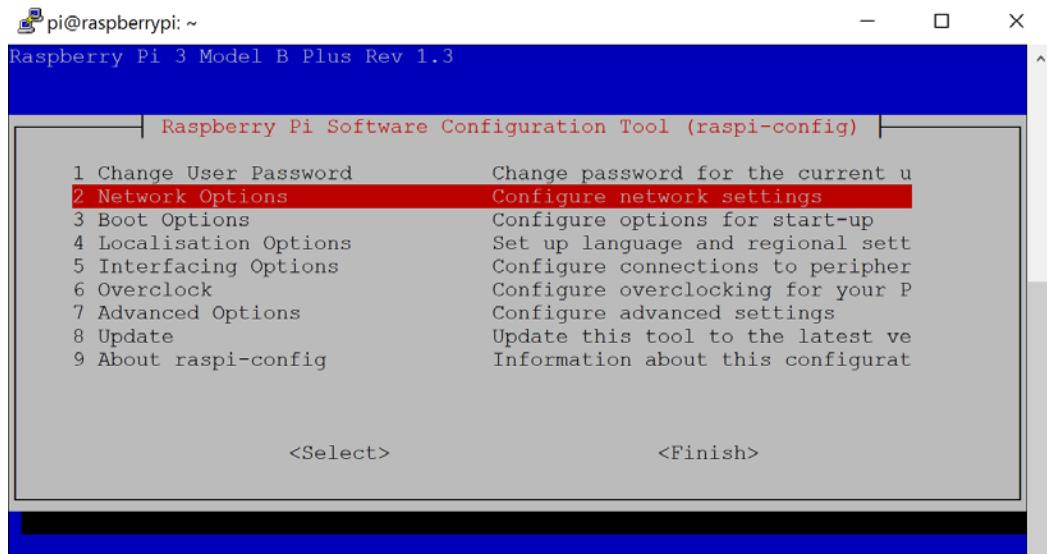

Figure 4.6 – Network options
1. In `raspi-config`, select **Network Options**, shown in *Figure 4.6*. Use the arrow keys on your keyboard to highlight and press *Enter* to select the entry: